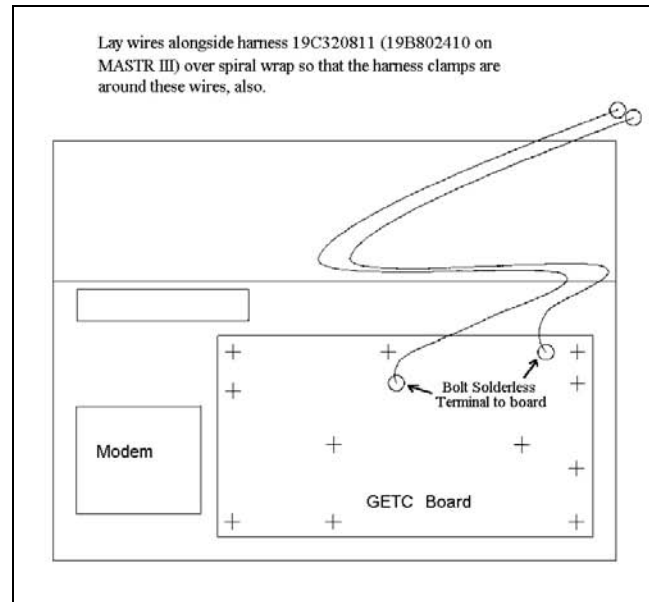

Figure 21 - Lightning-Protection Kit Cabinet Installation
3. The wires are then routed out of the shelf as shown in Figure 21.